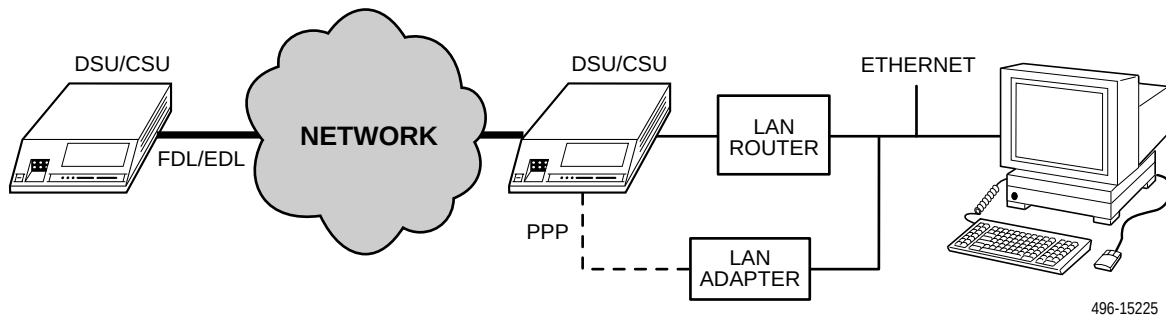

Figure 2-7. Remote Access through FDL/EDL
- Remotely accessing the DSU/CSU through the Facility Data Link (FDL) or the synchronous data port's Embedded Data Link (EDL) (Figure 2-7, Remote Access through FDL/EDL).